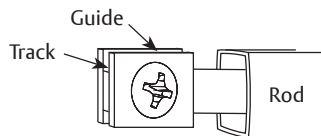

Figure 6
3. Rotate guide "D" so track is horizontal. (Figure 6)